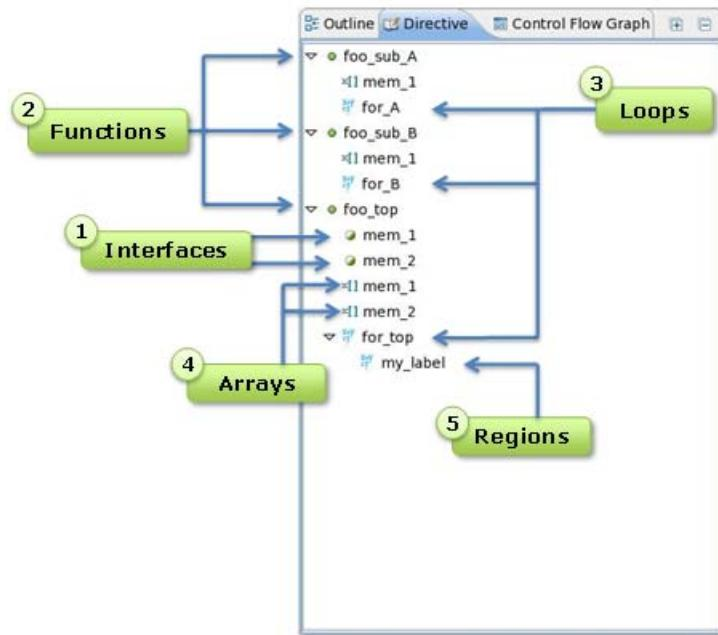

Figure 4-2: GUI Directives Objects
- Figure 4-2 shows how this code is represented in the GUI directives tab. The directives tab can be viewed by selecting the source code within the Project Explorer, then selecting the directives tab in the Auxiliary Pane (right hand side of the GUI).
- a. In the example in Figure 4-2, a directive applied on `foo_top` does not affect the operations in `foo_sub_A` or `foo_sub_B` (other than the exceptions stated above).